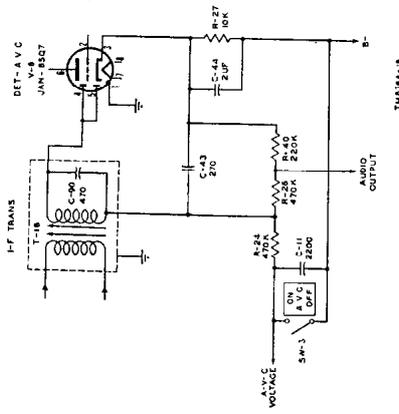

Figure 24. Detector and avc, simplified schematic diagram.
55. Detector and Avc (fig. 24)